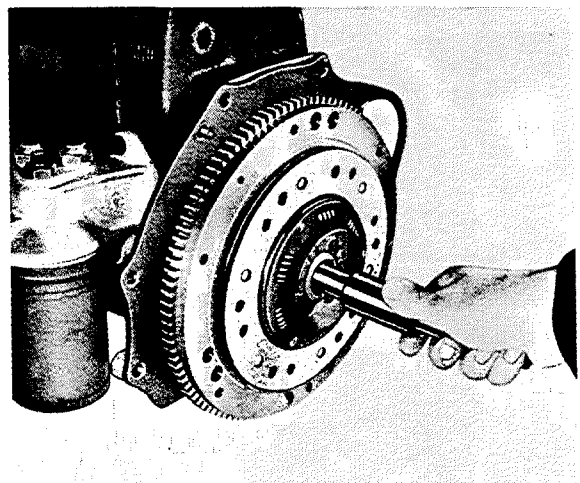

Fig. Ku 1/4
Note: To rule out any excessive one-sided loading, which might result in the end plate being deformed, the clutch must be removed in compressed condition only. To compress the clutch, place the compression yokes 136 589 23 61 under the outer ends of the throwout levers (see Fig. Ku 1/5) in the same way as for installing the clutch.
4. When installing the clutch again, center clutch plate on flywheel by means of centering arbor 136 589 00 61 or an old driveshaft (Fig. Ku 1/4). Be careful to install the clutch plate correctly! The side marked "Kupplungsseite" (Clutch side) must face the transmission (see also Fig. Ku 4/00).